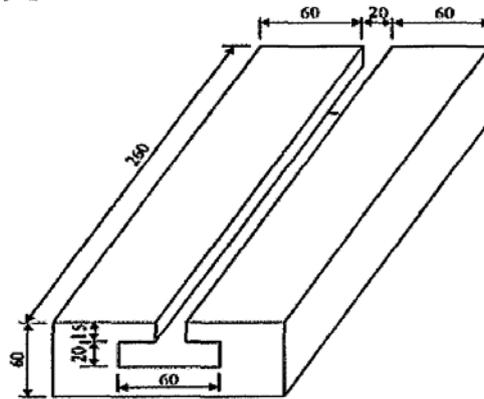

fig. 7a
- Q7) a)** A T-slot is to be cut in C.I. slab as shown in fig.7a. Estimate the machining time. Take cutting speed 25 m/min, feed is 0.25 mm/rev. Diameter of cutter for channel milling is 80 mm. Assume suitable data if required with justification. **[10]**